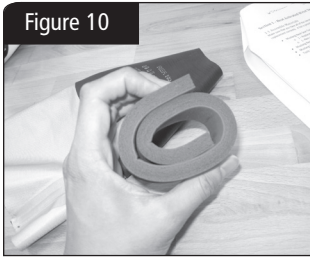

Figure 10
2. Roll the jig to form the smallest possible diameter. See Figure 10.